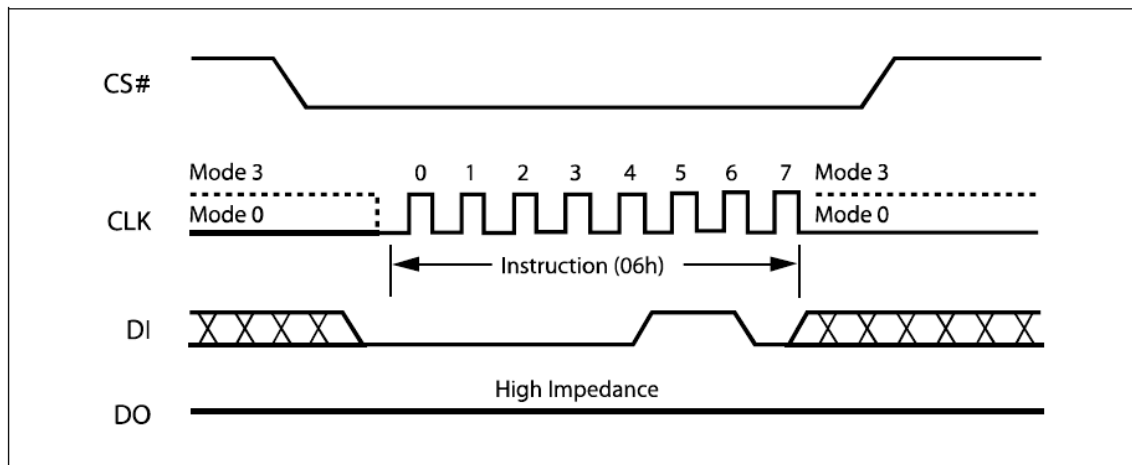

Figure 8. Write Enable Instruction Sequence Diagram
The Write Enable (WREN) instruction (Figure 8) sets the Write Enable Latch (WEL) bit. The Write Enable Latch (WEL) bit must be set prior to every Page Program (PP), Quad Input Page Program (QPP), Sector Erase (SE), Half Block Erase (HBE), Block Erase (BE), Chip Erase (CE) and Write Status Register (WRSR) instruction.